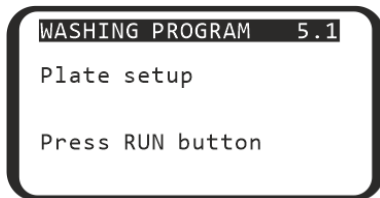
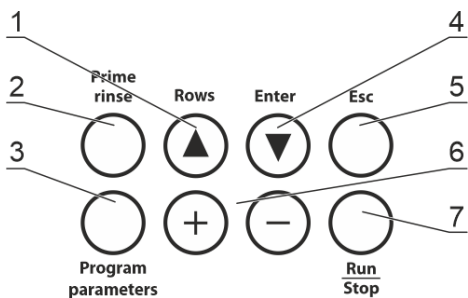
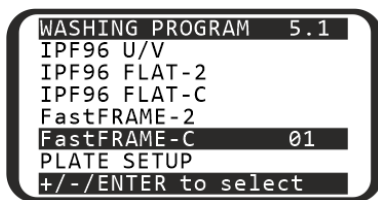
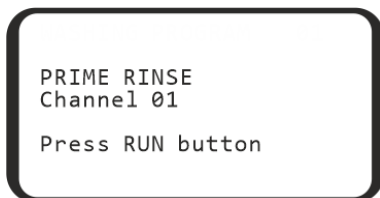

Figure 7. Plate setup
Figure 8. Control panel keys
Figure 9. Program selection
Figure 15. Rinsing the tubes, channel selection.
- Press the **Enter ▼** key (fig. 8/4) in the start mode, then the **Run/Stop** key (fig. 8/7), and the following message appears on the display (Figure 7).
- To select a row, press the **Enter ▼** key (fig. 8/4). Row selection is looped.
- To change the row value, use the **+** and **-** keys (fig. 8/6)
- 5.6.2 In figure 9, the user chose the first program (01) of the fifth type (FastFRAME). The choice can be seen in the top right corner (5.1).
5.7.2 To view the parameters of a program, press the **Program Parameters** key (fig. 8/3).
- To exit without saving, press the **Esc** key (fig. 8/5)
5.8.1 By default, the unit washes all rows of the microplate. In order to wash less rows, when in the program selection menu (figure 9) press **Rows ▲** (fig. 8/1). Display shows the row count menu (figure 11). Using the **+** and **-** keys, set the necessary number of rows. To cancel and return to the previous menu, press **Esc**. To save and start the program, continue reading.
5.8.2 Press the **Run/Stop** key (fig. 8/7) to start the program. The program can be started from the program selection menu, program parameters menu, or row count selection menu (figures 9, 10 or 11). To abort and return to program selection, press **Esc** key.
6.2.3 Press the **Prime rinse** (fig. 8/2), display shows the rinsing menu (figure 15). Select the channel of the attached tube using the + and – keys. Channel number can be found on the rear panel of the unit, under the attached tube (fig. 4/5–4/7)